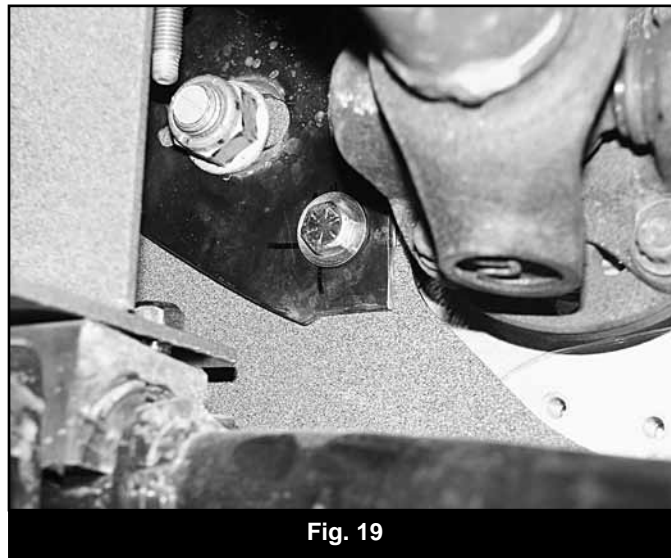

Fig. 19
36. Fasten the differential to the rear crossmember (Fig 19) with a 7/16" x 4" bolt and 7/16" SAE washer (BP #521) in conjunction with the provided nut tab (02000). Leave hardware loose.